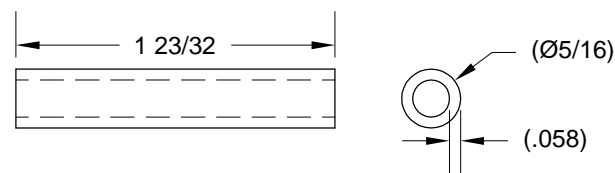

FIGURE 1: MAKING THE STANDOFFS
Step 1: Make four F-12121 Standoffs from .058X5/16 6061-T6 TUBE per the dimensions in Figure 1.